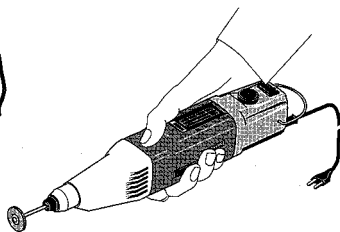

Fig. 4
3. For rough work hold the machine like a hammer (fig. 4).